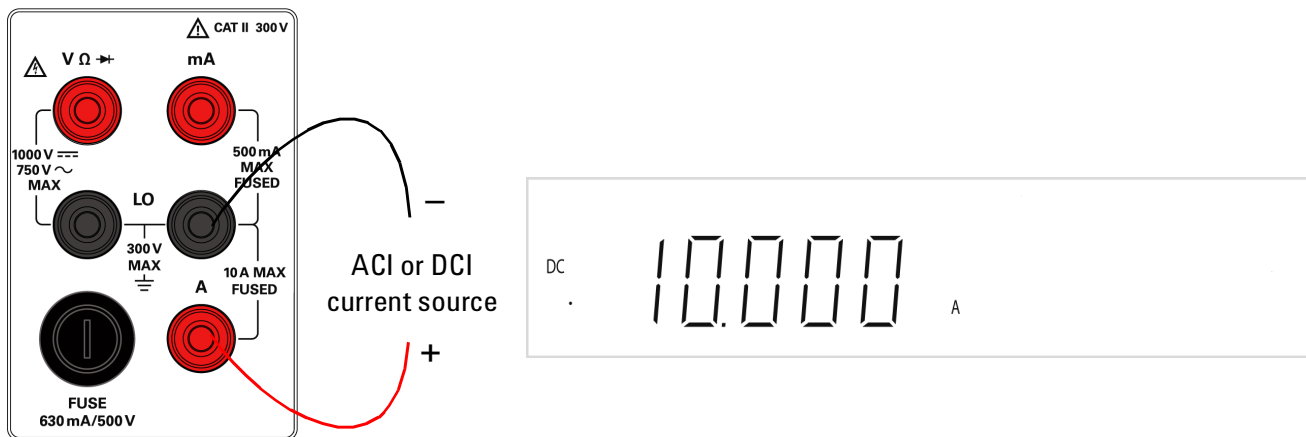

Figure 2-4 ACI RMS or DCI (10A) terminal connection and display
- 3 Connect the red and black test leads to the A input terminal as shown in Figure 2-4.